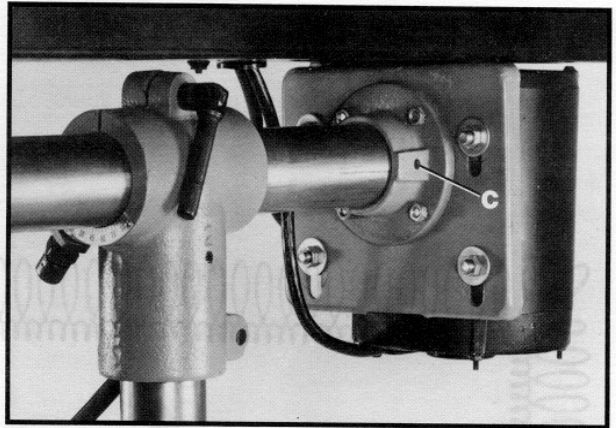

Fig. 30
2. Loosen the two screws, one of which is shown at (C) Fig. 30, that fasten the motor plate assembly to the horizontal column and rotate the motor until the motor pulley is aligned with the spindle pulley. Then tighten the two screws, one of which is shown at (C).